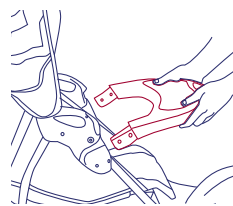
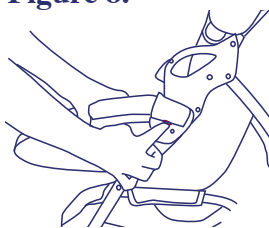

Figure 9A.
Figure 9B.
- To attach the front child tray, line up the male fittings of the child tray with the female fitting on the outside of the center joint and push inward (toward the rear of the stroller) until locked in place. See figure 9A. To remove the front child tray, depress the button on the underside of the male fitting and pull the tray outward to remove. See figure 9B